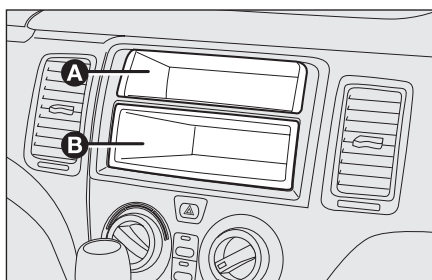

fig. 2
- ☐ with fixed oddment compartment **A** and extractable component (DIN) **B** **fig. 2** for installing the sound system;